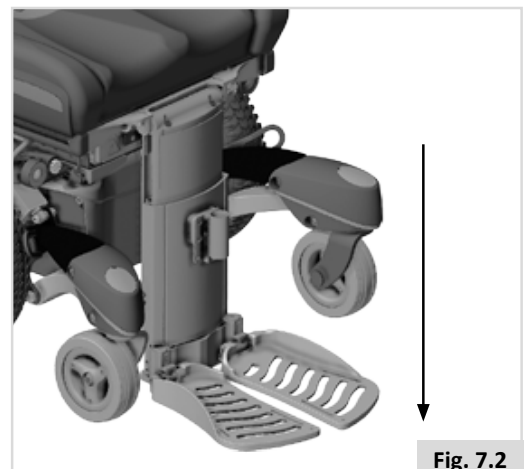

Fig. 7.2
- Push the joystick forward until the foot plates rest fully on the ground (Fig. 7.2).